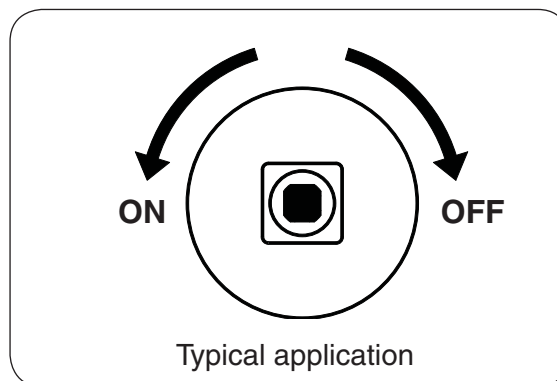

Fig. 12-2
4. **Once the match is burning and in position**, slowly turn the key valve counter-clockwise toward the **ON** position until it no longer rotates (see Fig. 12-2). Your burner should light.
To extinguish your gas burner, turn the key valve clockwise toward the **OFF** position until it no longer rotates (see Fig. 12-2). Be sure the key valve is turned fully off to avoid any gas leakage.